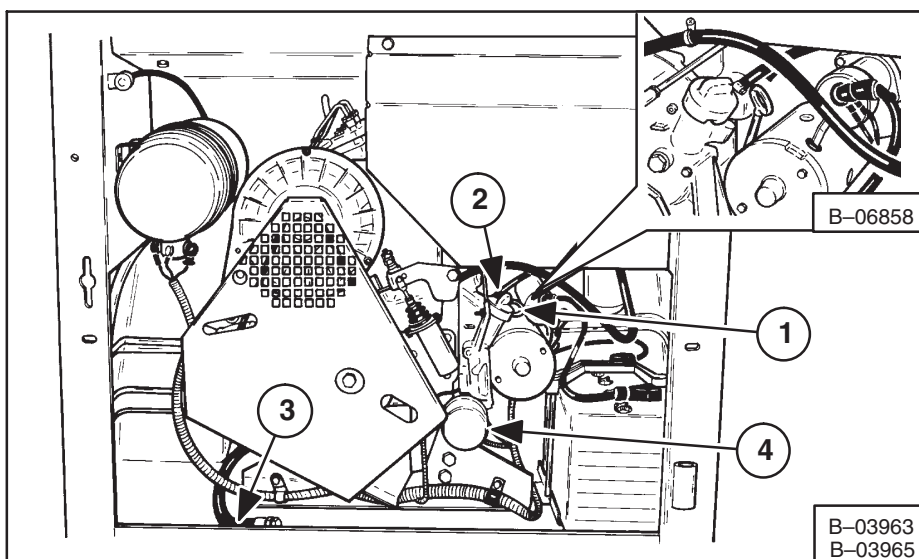

Fig. 1-10 Engine Servicing (641)
To check the oil level, stop the engine and remove the dipstick from the engine (Fig. 1-10, 1-11, 1-12, Items 1).
To add oil remove the fill cap (Fig. 1-10, 1-11, 1-12, Item 2)
2. Remove the oil plug (641, Fig. 1-10, Item 3) (642, Fig. 1-13, Item 1) (643, Fig. 1-14, Item 1).
3. Remove the oil filter (641, Fig. 1-10, Item 4) (642, Fig. 1-13, Item 2) (643, Fig. 1-12, Item 3).